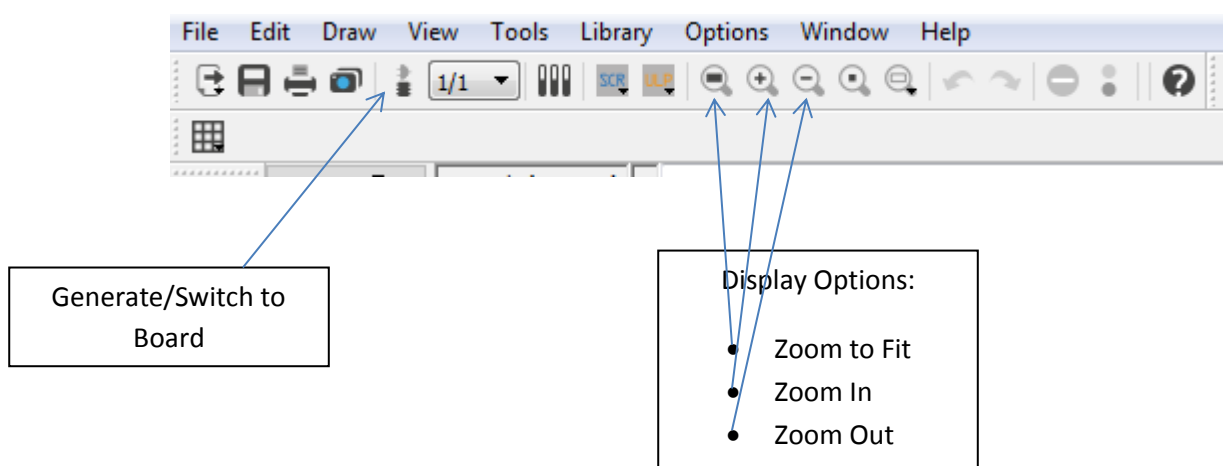

Figure 2: Eagle Headline Commands
- e. Once you are happy with your schematic use the “create layout from schematic button” as shown in Figure 2